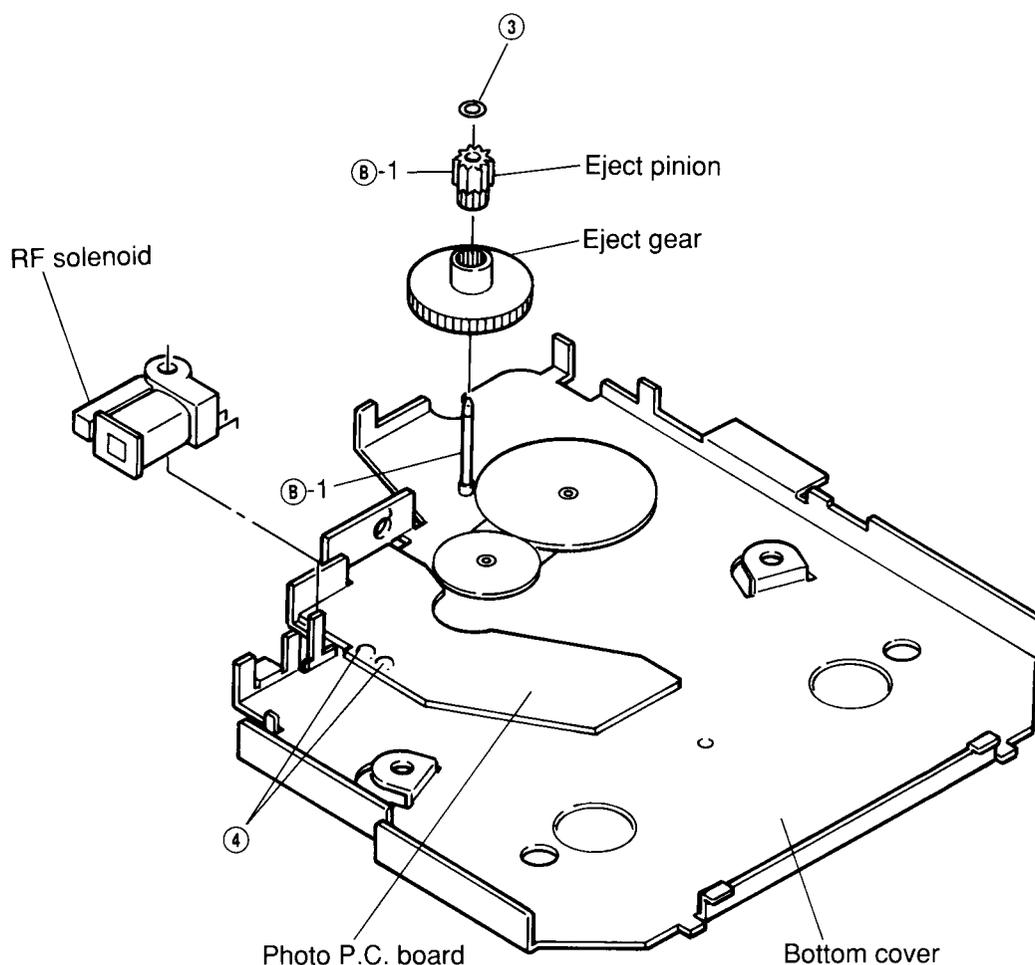

Figure 6
- (1) Remove M1.2 lock washer ③ as shown in Figure 6.
- (2) Pull the eject pinion out of the eject gear and remove the eject gear as shown in Figure 6.
- (3) Apply the molykote E paste to the section ⑧-1, and mount the eject gear following the removal steps in the reverse order. After replacement is finished, make sure that the gear rotates smoothly. (Refer to Figure 6.)
- (1) Remove two solders ④ and remove the RF solenoid from the bottom cover by pulling it up as shown in Figure 6.
- (2) Replace the solenoid with a new one, and remount it following the removal steps in the reverse order as shown in Figure 6.
**Note:** When removing solder ④, set the temperature of the soldering iron to  $350^{\circ} \pm 10^{\circ}$  and the soldering time to 1 – 3 seconds. Take care that the solder is not loose, that there is no shortcircuit and that the coating is not damaged.